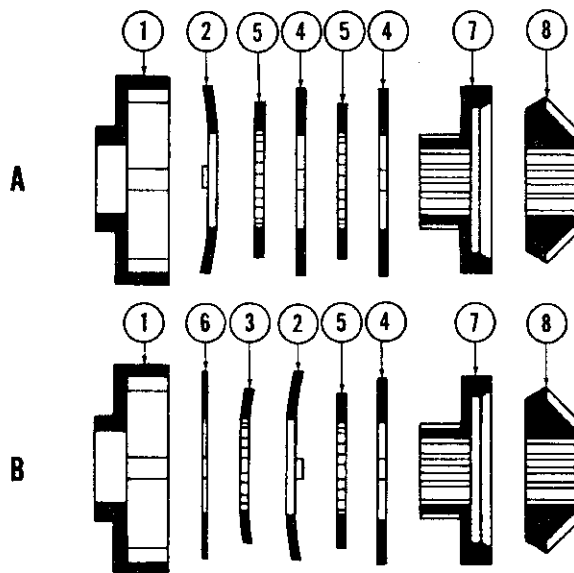

FIG. N-39—PLATE ASSEMBLY ORDER 12876
- e. Remove the disc and plate sets. The illustration (Fig. N-39) shows the arrangement of plates and discs. When reassembling unit, discs and plates must be reinstalled in this arrangement. Be sure to keep in mind which way the set will face toward the case.
- n. Assemble the clutch friction plates, clutch friction discs, and dished plates on the splined hub of each bevel side gear. Make sure the plates and discs are installed in the proper relationship as shown in Fig. N-39. The dished plates in the plate and disc set are always assembled with the convex side toward the case. As each part is reassembled in its proper position, it is necessary that it be lightly coated with Powr-Lok lubricant.